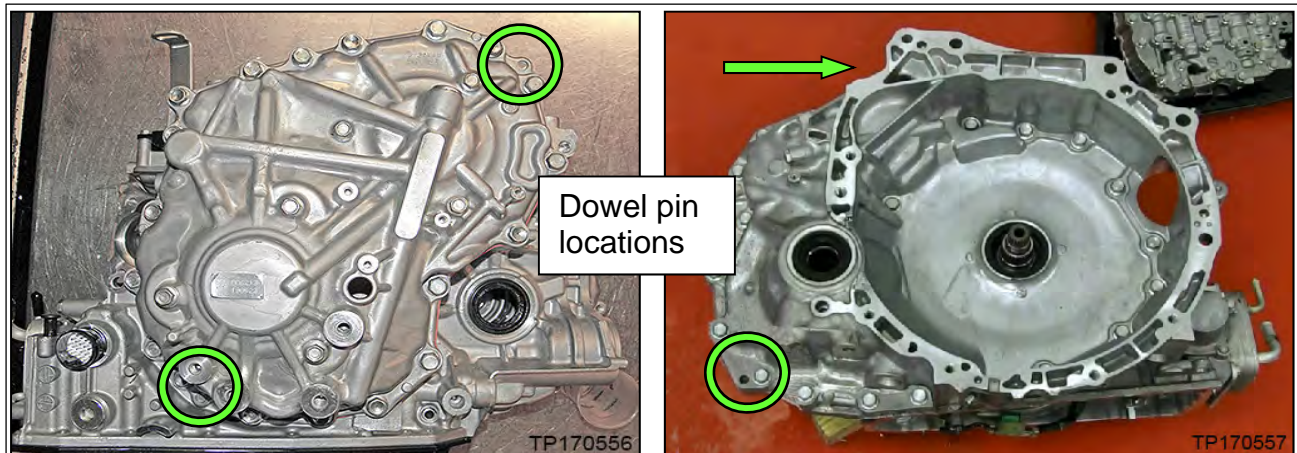

Figure 6
- Apply rust penetrant to locator / dowel pins on torque converter housing and side cover of CVT and allow to soak as needed (Figure 6).